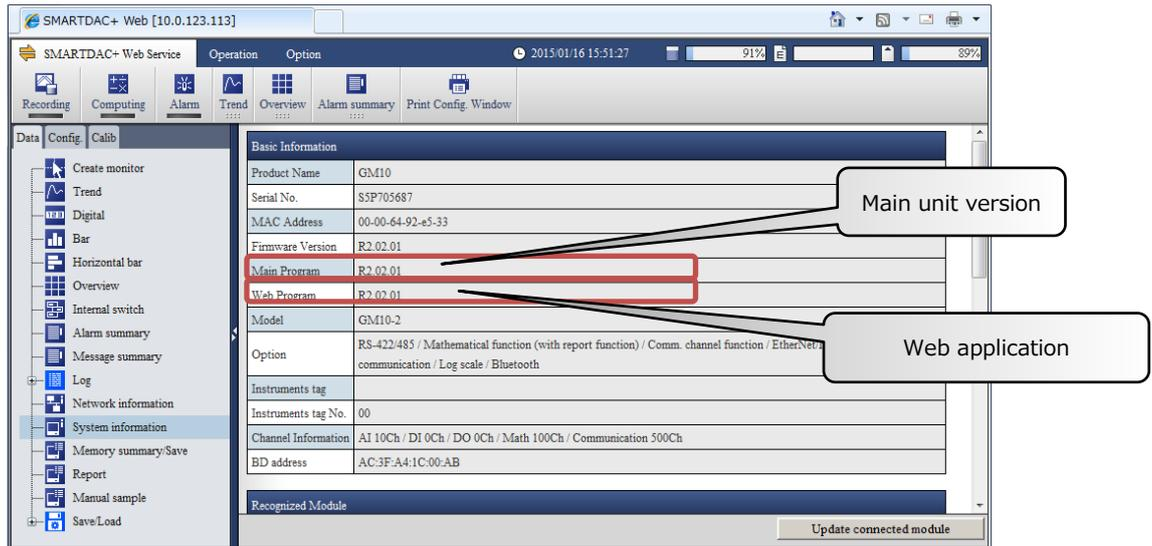

Figure 2: System information screen
- 1.1 Using the contents selection tool, click Data > System information to display the system information screen (see figure 2).